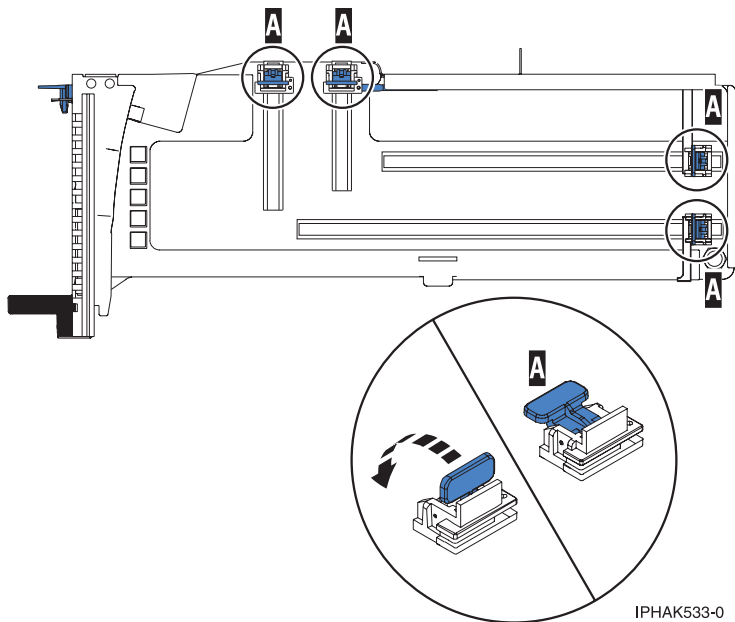

Figure 7. Adapter retainers in a cassette
- a. Ensure that all of the adapter retainers have been pushed out to the edges of the cassette to allow the placement of the adapter. See Figure 7.